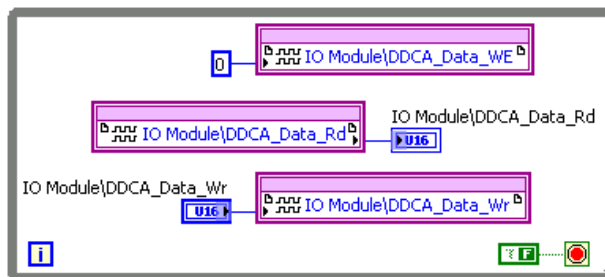

Figure 6. Data RW (FPGA).vi Block Diagram
10. Add a While Loop around the three Data nodes, as shown in Figure 6.